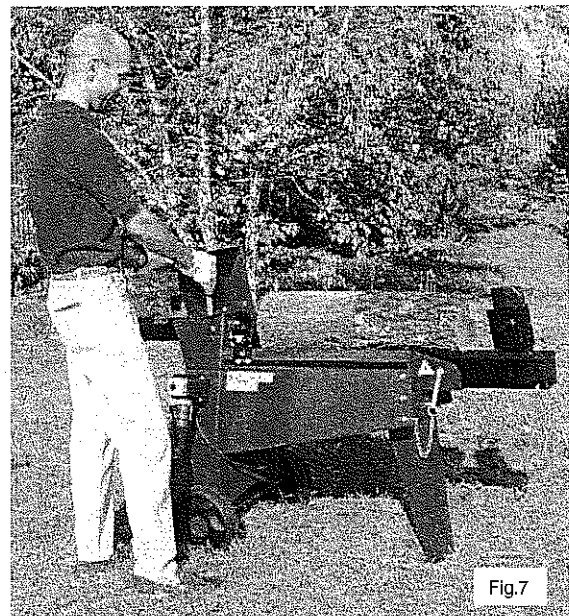

Fig.7
- Place the log on the work surface as shown in fig. 7. To ensure safety, the two sides of the log must be parallel.